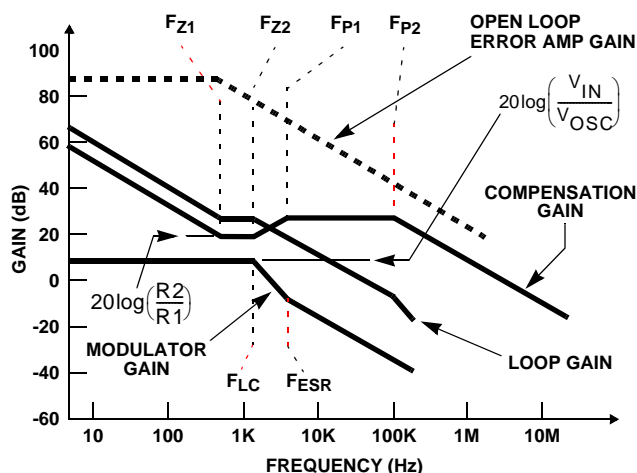

FIGURE 8. ASYMPTOTIC BODE PLOT OF CONVERTER GAIN
Figure 8 shows an asymptotic plot of the DC-DC converter's gain vs. frequency. The actual modulator gain has a high gain peak dependent on the quality factor (Q) of the output filter, which is not shown in Figure 8. Using the above procedure should yield a compensation gain similar to the curve plotted. The open loop error amplifier gain bounds the compensation gain. Check the compensation gain at F_{P2} with the capabilities of the error amplifier.